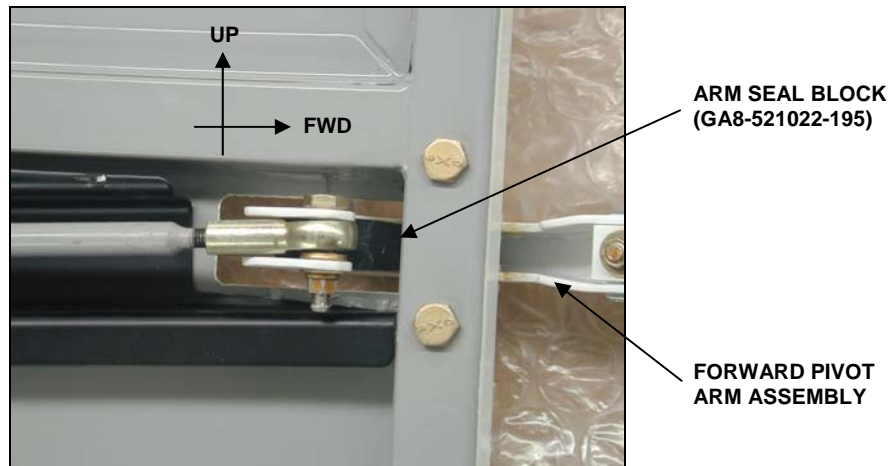

Figure 8: Installation of the new arm seal block.
14. Remove the arm seal block inside the forward pivot arm assembly, and remove any adhesive remnants using a plastic spatula and Prepsol (or equivalent) on a cloth. Install new arm seal block (GA8-521022-195) using grease or sealant/adhesive as required. Figure 8 shows the installation of the new arm seal block.